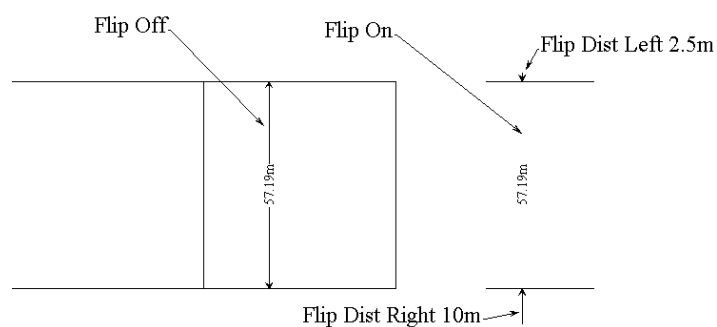

Figure 2-23 - Dimension Arrow Flipping
- Flip Distance:** Left and Right - Enter the length of each arrow required if “Flip” is used. (See Figure 2-23).